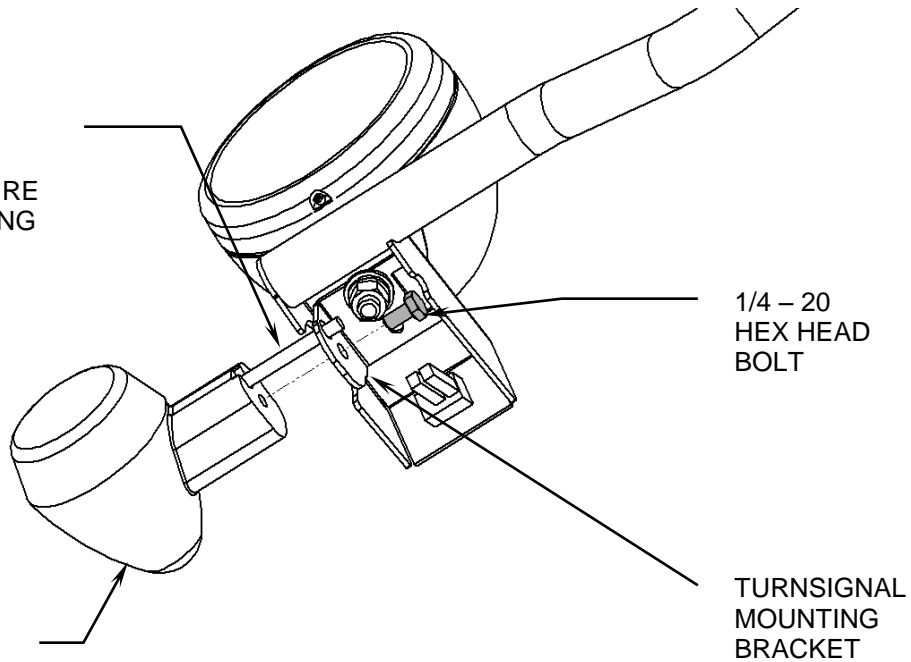

FIGURE 1
1. Remove the new Cobra lightbar from packaging. Install the loose turn signals to the mounts with the (2) supplied 1/4" bolts; see Figure 1, page 2.
2. Remove (2) screws from motorcycle headlight and set aside. Remove the headlight from housing, unplug and set aside.
4. Install Cobra lightbar under bottom triple clamp by inserting the (2) supplied M6 x 20 flange bolts into the threaded holes in the lower triple clamp.
11. Reinstall headlight with (2) screws removed in Step 2.
12. Check to make sure your handlebars turn from lock to lock without any stretching or binding of any wires. Check the alignment of all your lighting. Make sure everything is in proper working order before riding the vehicle. **NOTE:** Figure 1 on next Page.